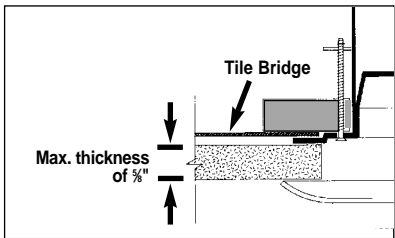

FIG. 3
**Figure 3:** Enclosure installation from above ceiling using tile bridge (new construction). Rotating clamps are used to pre-mount tile bridge to enclosure, allowing system to be positioned in ceiling before tiles are set. Please note maximum ceiling thickness in this application is 5/8" to allow grille studs to mount into enclosure.